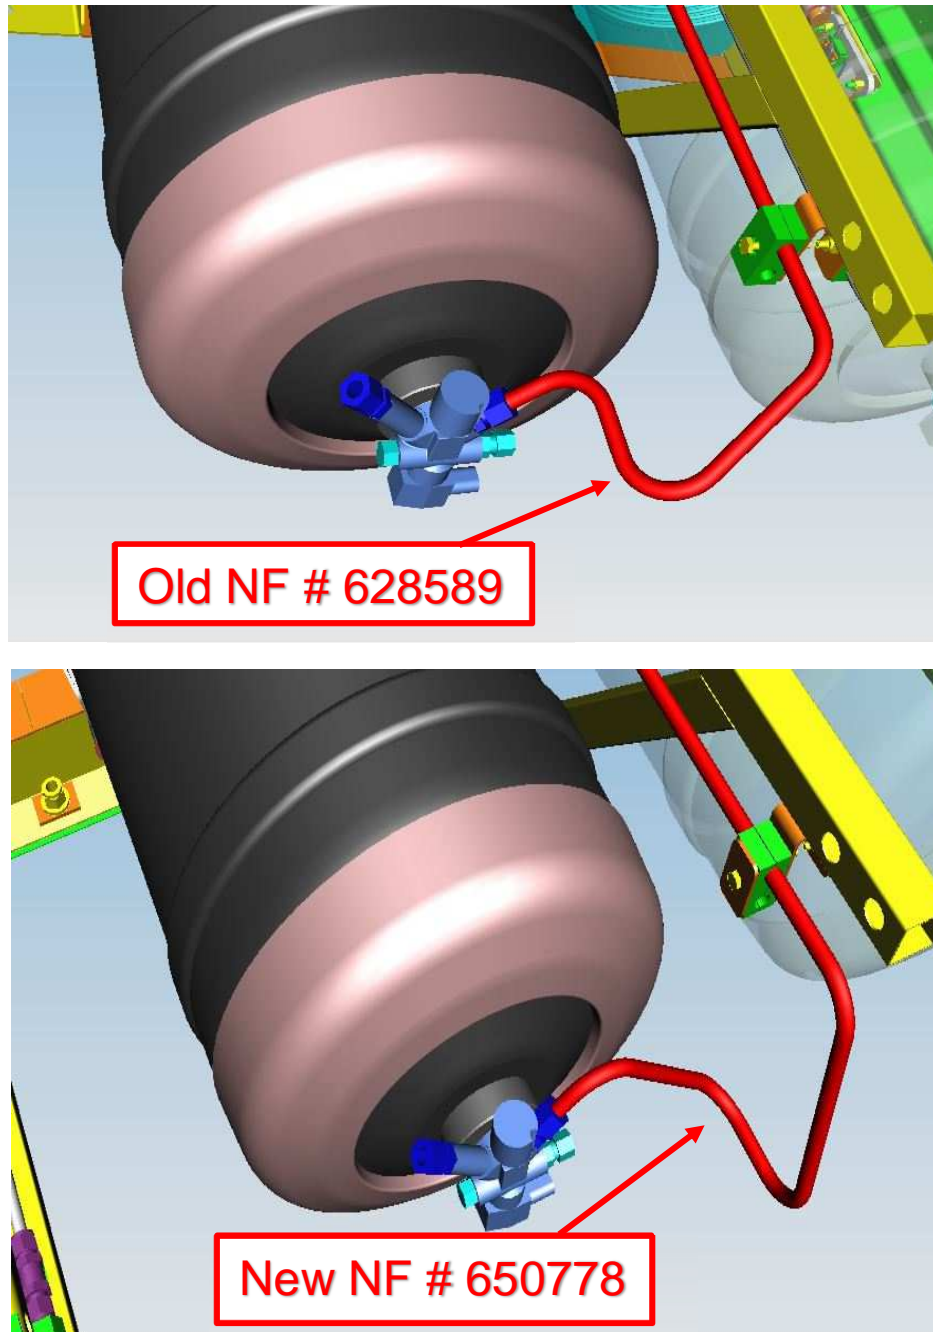

**Figure 9: Torque adaptor while using a backing wrench**
12. Using a 13/16" backing wrench on the bottom hex of the PRD, torque the Swagelok adaptor fitting 30 to 37 FT-LBS. Refer to Fig. 9.